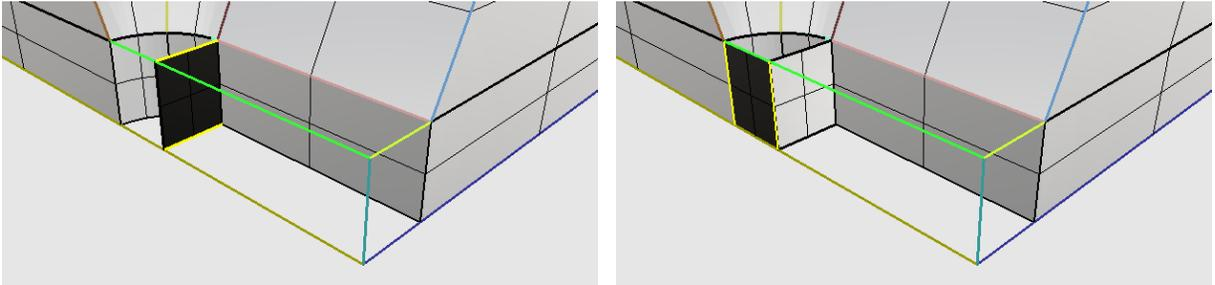

Figure 79: Building 2 additional surfaces
- Use **Loft** to build the vertical surface between the two highlighted horizontal construction lines shown in Figure 79, left. Use **Loft** to build an additional vertical surface shown in Figure 79, right.